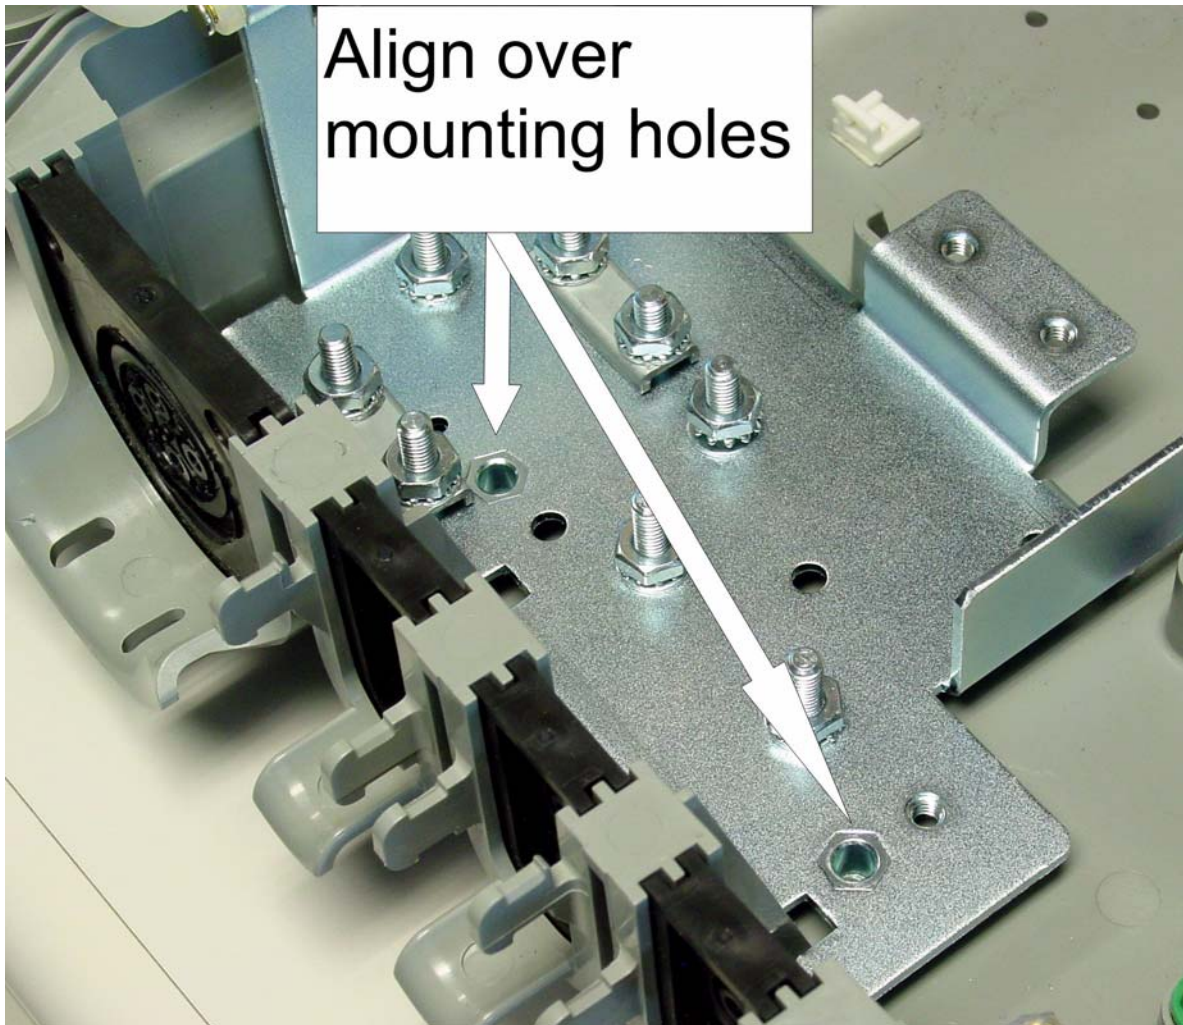

Figure 6. Aligning the Ground Plate
3. Align the mounting holes in the grounding plate with the holes in the back of the enclosure, as shown in Figure 6